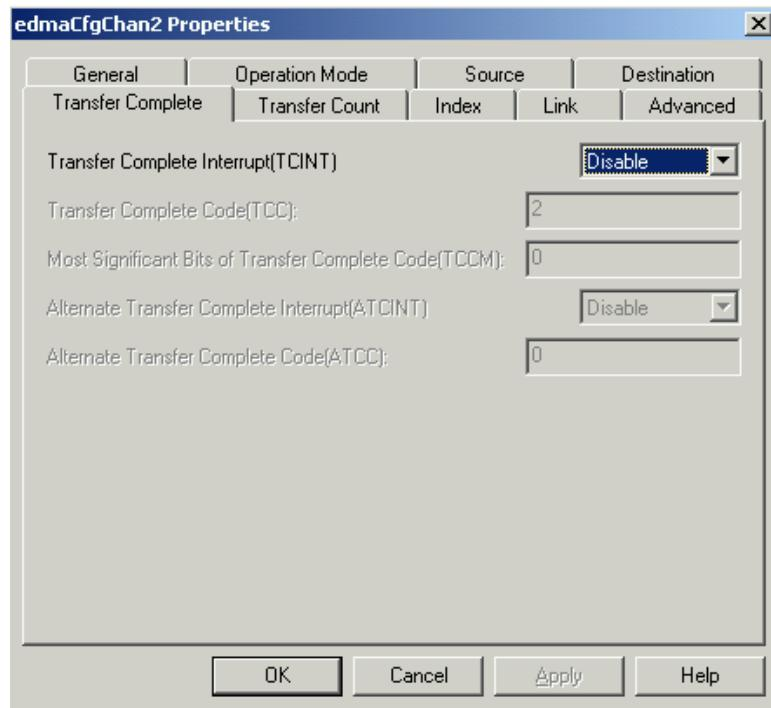

Figure 6. EDMA Chan2 Transfer Complete Tab Options
5. In the Transfer Complete tab, choose options shown in Figure 6. Transfer complete interrupt is disabled.